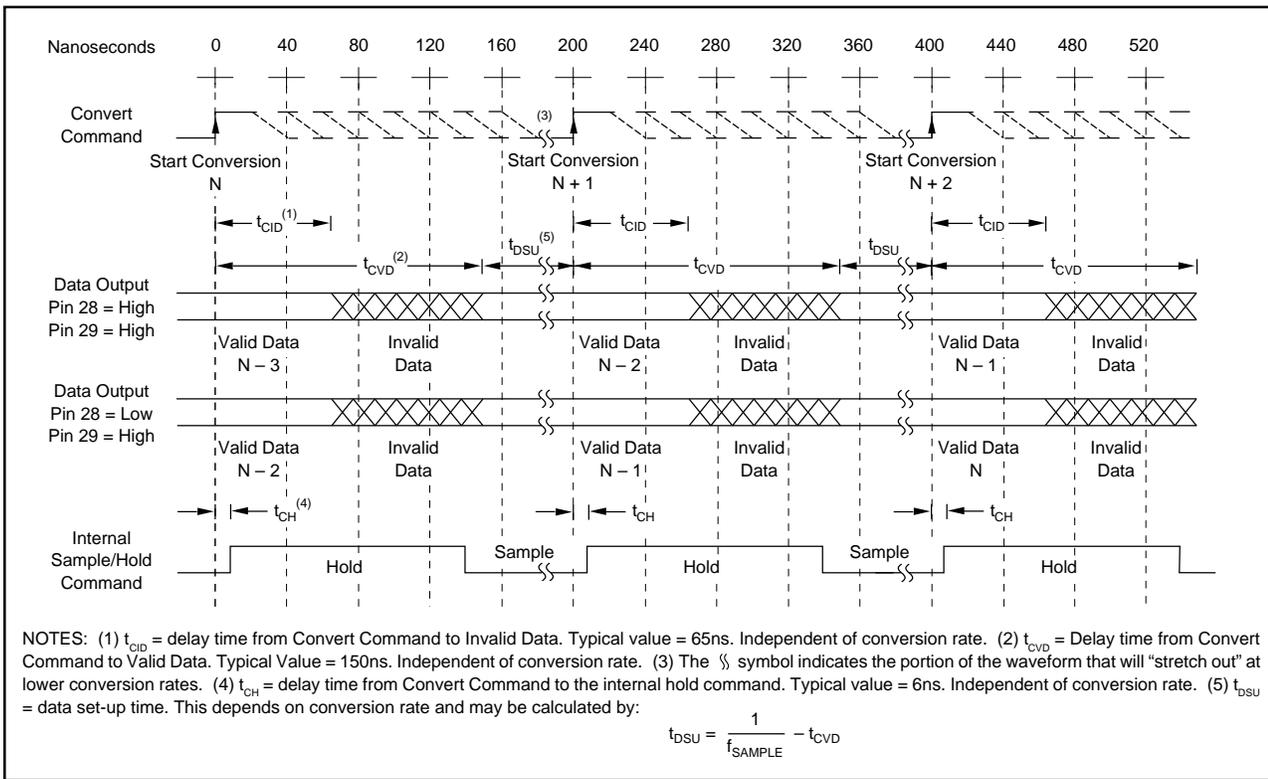

FIGURE 12. Convert Command Strobe Timing for a 5MHz Conversion Rate.
The ADC614 generates all necessary timing signals internally. Only timing between Convert Command, Output Data, and Data Valid must be considered. Proper timing is shown in Figures 12 and 13. There are two methods for reading output data, offering three selectable levels of data pipeline delay as described below:
(1) Convert Command timing option (pin 29 = HIGH)— With this option, the Convert Command signal is used both for initiating a new conversion and for reading valid data from a previous conversion. This method is most useful in synchronous systems where data samples are taken continuously. See Figure 12 for timing relationships.